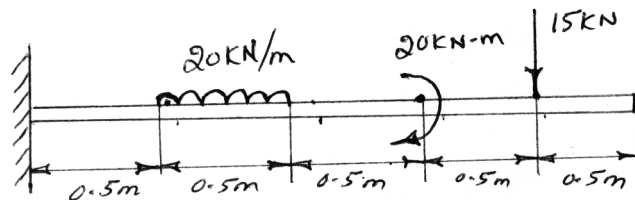

Fig 2, Q. No. 5.(b),
- b. Draw the Shear force and bending moment diagram of a cantilever beam loaded as shown in Fig. 2. And locate point of contra flexure, if any.